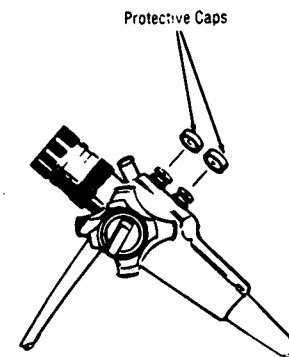
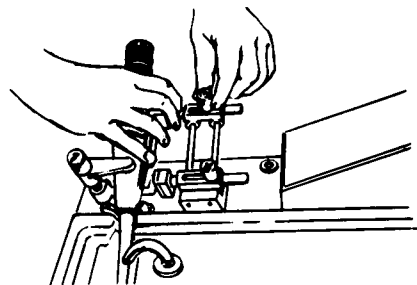

Figure 2-8. PLACE PROTECTIVE CAPS OVER SUCTION AND AIR/WATER BUTTONS.
Figure 2-9. SECURE SCOPE SUCTION BUTTON IN OPEN POSITION.
8. Place the protective caps (P-150825-105) over the suction and air/water buttons on the side of the operating head. See Figure 2-8. Slide the pressure pad up the support until it is aligned with the scope suction button, then push the pressure pad against the button until the button is fully depressed. Tighten the clamp in place by turning the screw "3" clockwise. (This will keep the channel open for washing.) Repeat this procedure for the air/water button with clamp "4" (if the scope has an air/water channel.) See Figures 2-9, 2-10.